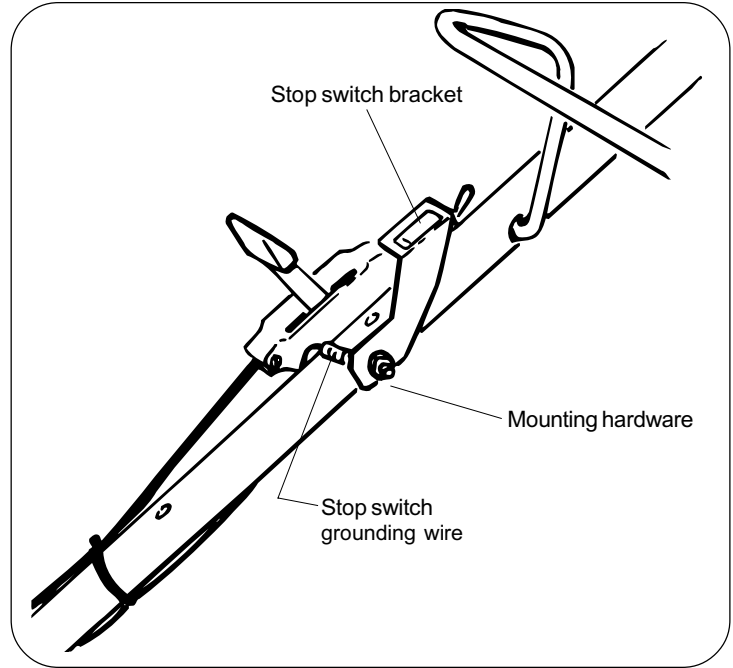

Fig. 7
2. Attach throttle control to upper handle assembly, using pre-mounted screw and lock nut. Assemble stop switch bracket, and throttle to handle using same hardware (See fig. 7, Page 5).
3. Attach throttle cable conduit and stop switch wire to right side of handle in two (2) places using two cable clamps provided in parts bag (See fig. 7, Page 5).